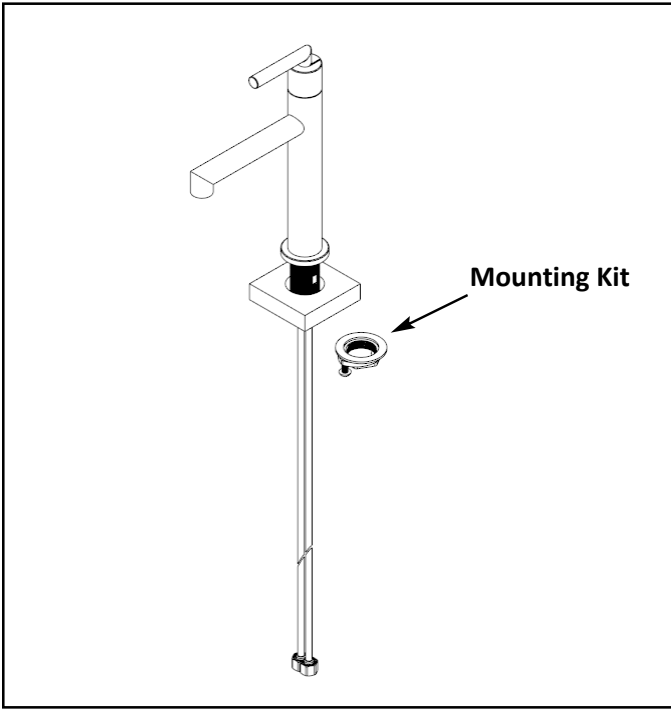

Figure 1
1. Insert hoses through deck hole one at a time, and secure spout into place with MOUNTING KIT. **See Figure 1.**